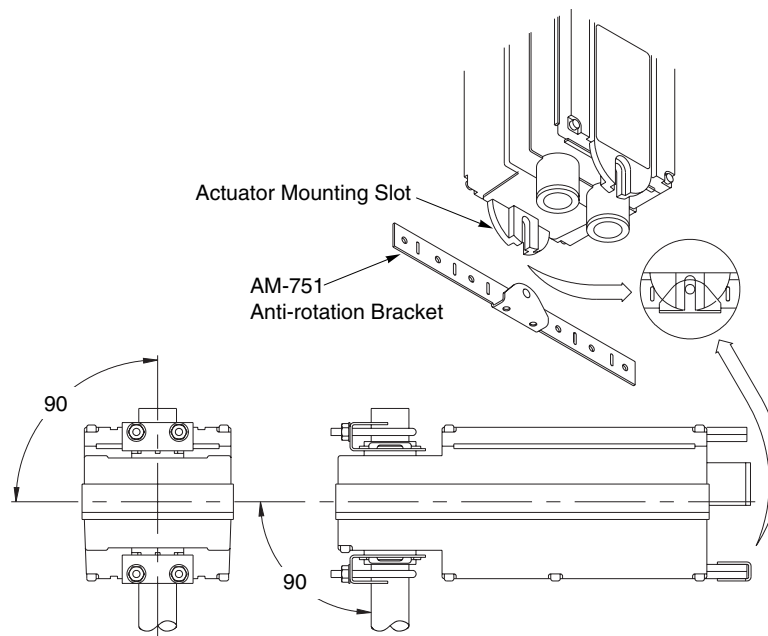

Figure-7 Mounting Anti-rotation Bracket to Actuator.
4. Align the actuator at 90° (perpendicular) to the damper shaft. See Figure-7.
5. Slide the anti-rotation bracket pin into the mounting slot on the actuator and drill mounting holes. See Figure-7. For narrow spaces the AM-752 anti-rotation bracket is recommended (order separately).
7. Slide the anti-rotation bracket pin into the mounting slot on the actuator. See Figure-7. For narrow spaces, the AM-752 anti-rotation bracket is recommended (order separately).